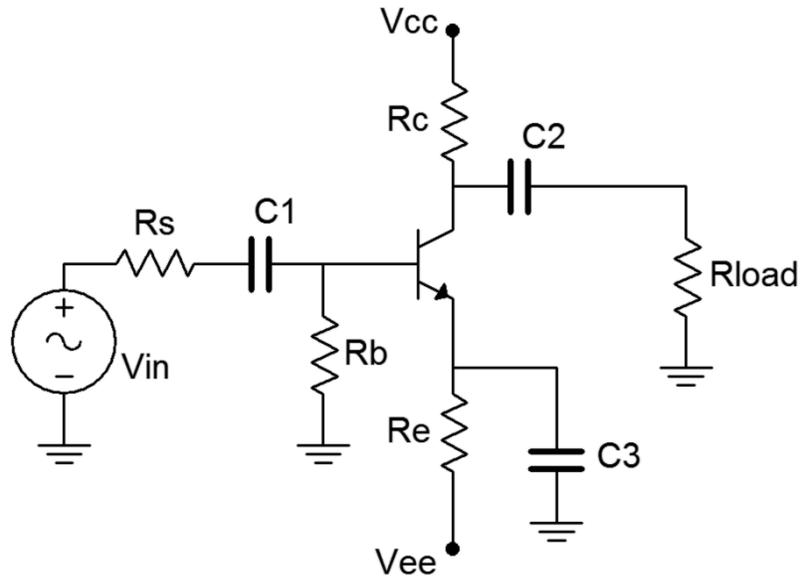

Figure 1
1. Consider the circuit of Figure 1 using  $V_{cc} = 15$  volts,  $V_{ee} = -12$  volts,  $R_s = 10$  k $\Omega$ ,  $R_b = 33$  k $\Omega$ ,  $R_e = 22$  k $\Omega$ ,  $R_c = 15$  k $\Omega$ ,  $R_{load} = 20$  k $\Omega$ ,  $C_1 = C_2 = 10$   $\mu$ F and  $C_3 = 470$   $\mu$ F. Using the approximation of a negligible base voltage, determine the DC voltages at the base, emitter, and collector along with the collector current, and record these in Table 1.
2. Build the circuit of Figure 1 using  $V_{cc} = 15$  volts,  $V_{ee} = -12$  volts,  $R_s = 10$  k $\Omega$ ,  $R_b = 33$  k $\Omega$ ,  $R_e = 22$  k $\Omega$ ,  $R_c = 15$  k $\Omega$ ,  $R_{load} = 20$  k $\Omega$ ,  $C_1 = C_2 = 10$   $\mu$ F and  $C_3 = 470$   $\mu$ F. Make sure that the AC source is turned off or disconnected. Measure the DC voltages at the base, emitter, and collector along with the collector current, and record these in Table 1. Note, you may wish to use a transistor curve tracer or beta checker to get approximate values of beta for each of the three transistors to be used.